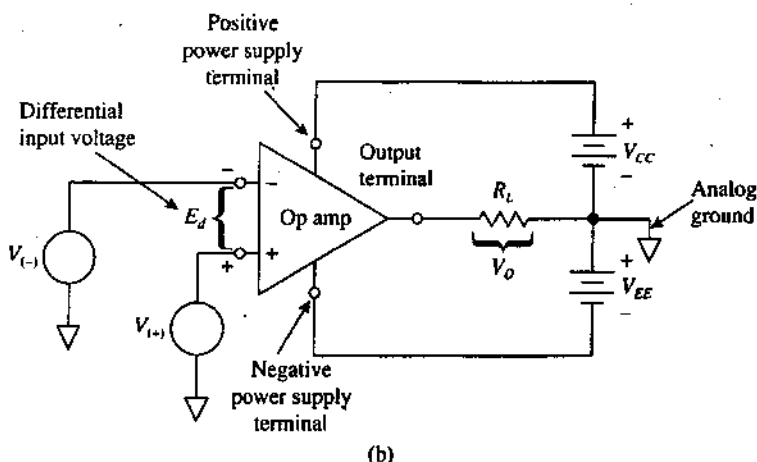

FIGURE 1-3 (b)
General-purpose op amps are multistage systems. As shown in Fig. 1-3(a), the basic op amp consists of an input stage with two input terminals, an output stage with one output terminal, and an intermediate stage that connects the output signal of the input stage to the input terminal of the output stage.
**FIGURE 1-3** (a) Simplified block diagram of a general-purpose operational amplifier with external connections; (b) external connections using the op amp's circuit symbol.
The input stage of the op amp in Fig. 1-3(a) is called a differential amplifier. It has very high input impedance as well as a large voltage gain. When input signals  $V_{(+)}$  and  $V_{(-)}$  are applied, the difference voltage,  $E_d$ , is amplified by this stage and appears as the output voltage  $V_o$ . (Examples of how  $E_d$  is calculated are given in Lesson 2.)
The signal voltage  $V_2$  at the output of the intermediate stage is coupled directly into the output stage. The most common output stage is a *pnp-npn* push-pull transistor configuration. Using a push-pull circuit as the final stage allows the op amp to have a very low output resistance. As shown in Figs. 1-3(a) and (b), load resistor  $R_L$  is connected between the output terminal and common to develop output voltage  $V_o$ .
This simplified model of the op amp in Fig. 1-3(a) presents the basic information on its internal architecture. The actual circuitry is more complicated, but the functions are similar.